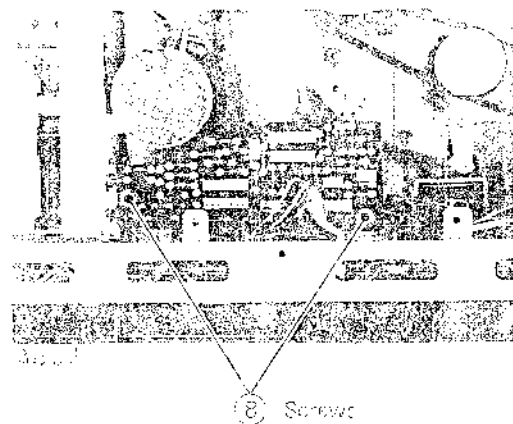

Fig. 3-16
3. Take out 2 screws ⑦ shown in Fig. 3-16 and remove the Y & COLOR board.
1. Take out 2 screws ⑧ shown in Fig. 3-16.